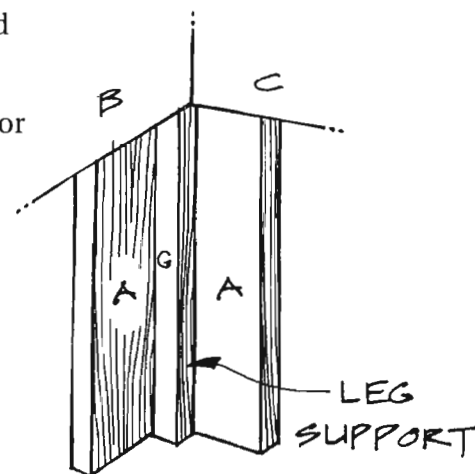

Figure 4
7. Attach one leg support (G) to the inside corners of each of the four legs as shown in *Figure 4*. Use three or four screws on each side of each leg support (G).